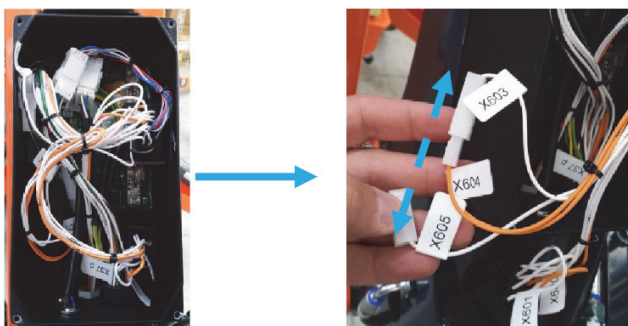

Figure 4-59.
11. Open load cell board (ECM3) box, locate connectors X604 and X603, then disconnect them. See Figure 4-59.